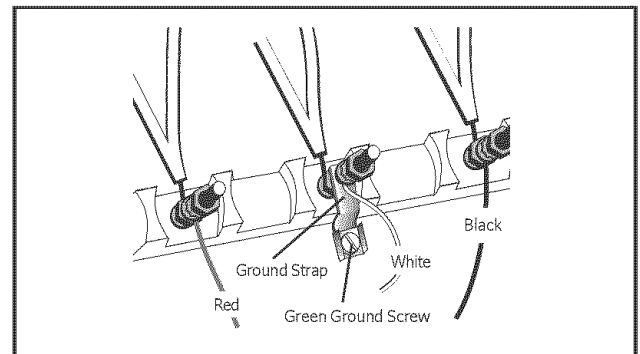

Figure 8
7. Tighten all connections securely and replace terminal block cover (See Figure 8).